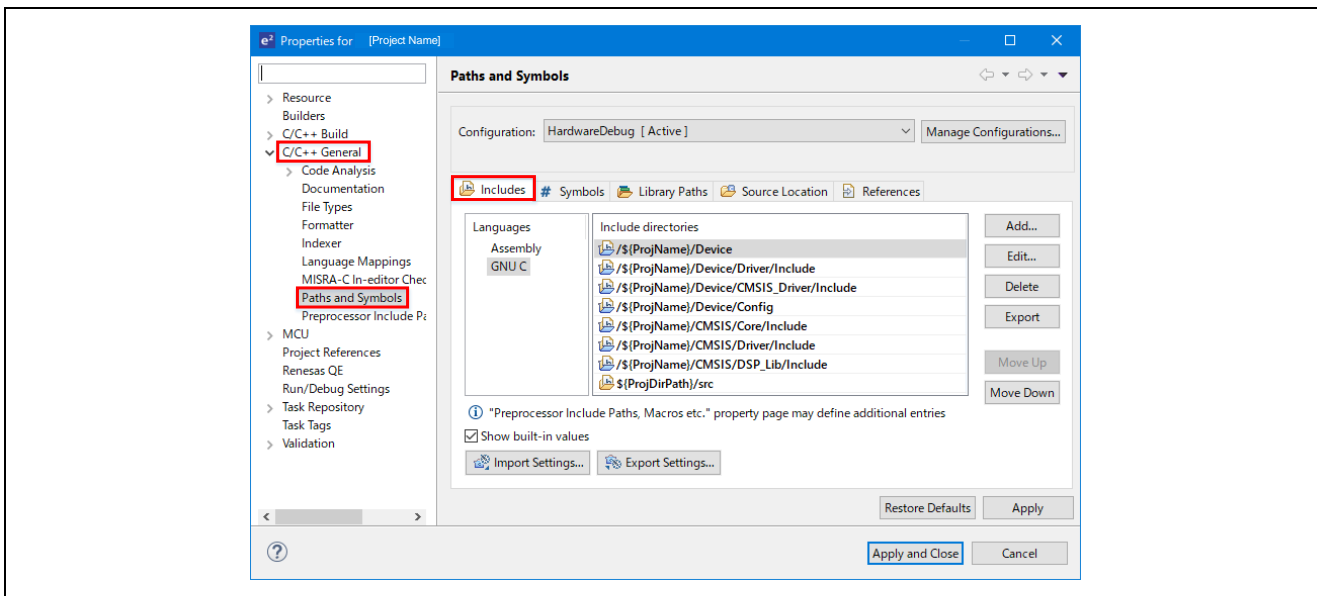

Figure 7-2 Setting of include directory (e² studio)
-> [Includes]. (See Figure 7-2)